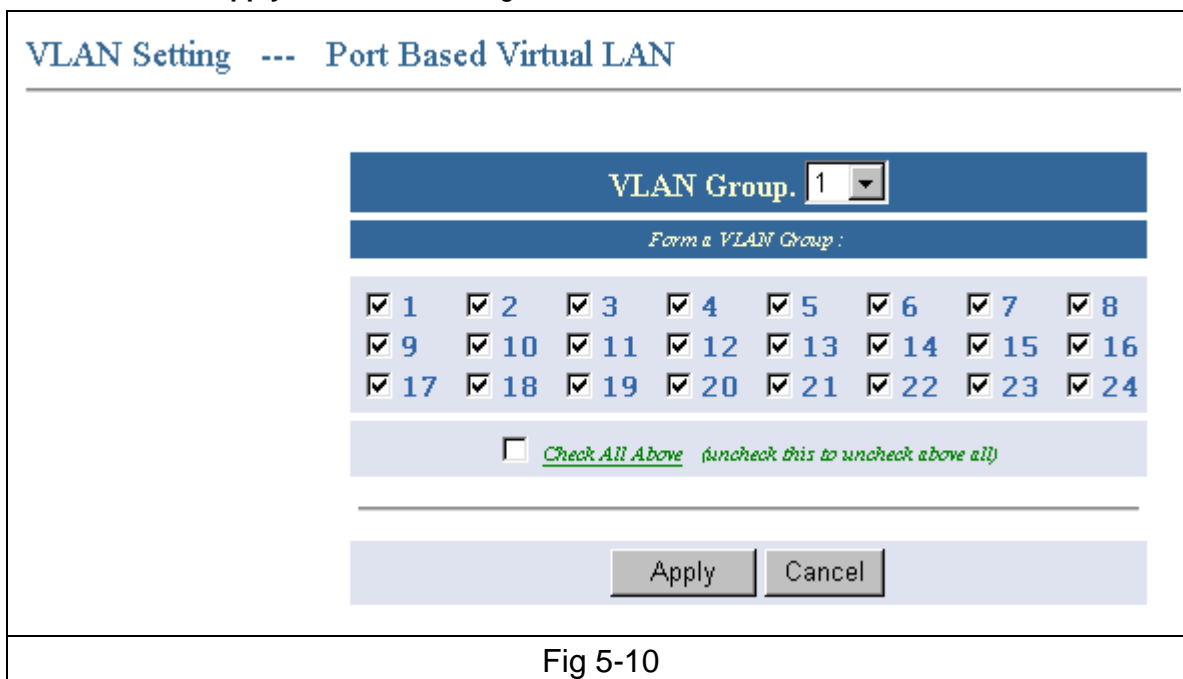

Fig 5-10
1. Select VLAN group number. It supports up to 24 VLAN Groups. (Fig 5-10).